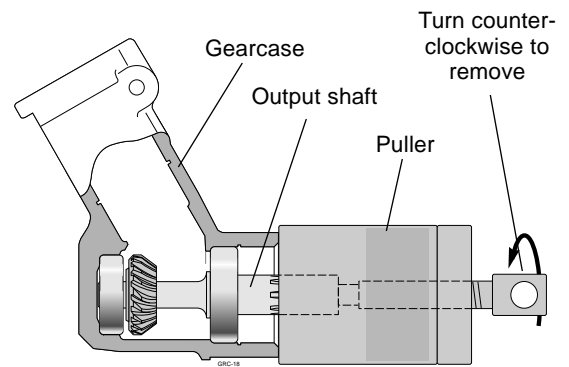

Figure 11.20 Removing the 250 output shaft.
- STEP 2.** Thread the shaft puller bolt into the gearcase output shaft (turn counter-clockwise) until the puller body bottoms against the gearcase (Figure 11.20).